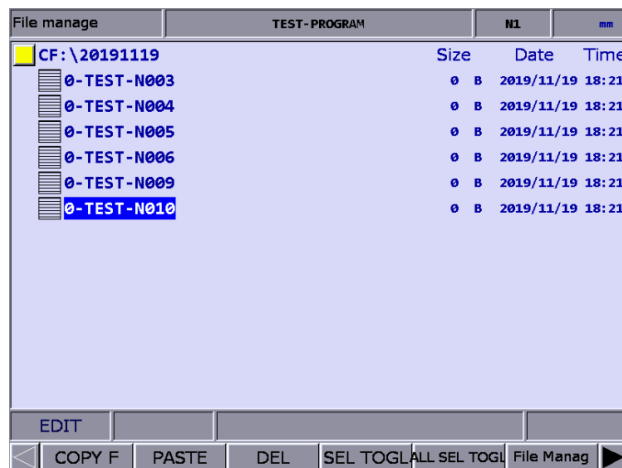

Figure 7.6.2
- (5) After selecting the files, press **COPY F**.
- (6) Go to another directory and press **PASTE** to paste the selected files, as shown in Figure 7.6.2.